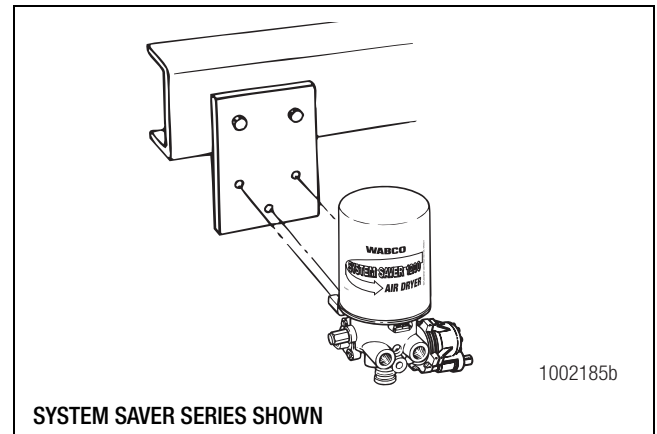
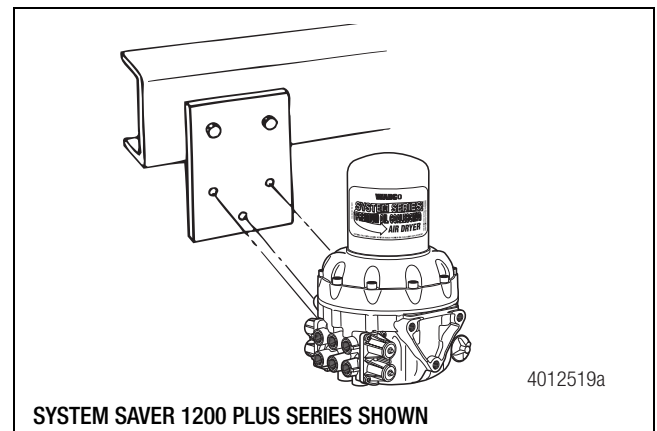

Figure 2.26
Figure 2.27
4. Attach the new unit to the frame or mounting bracket with new mounting capscrews and washers. Tighten the capscrews to 22-30 ft-lb (30-40 N•m). Figure 2.26 and Figure 2.27. **ⓘ**